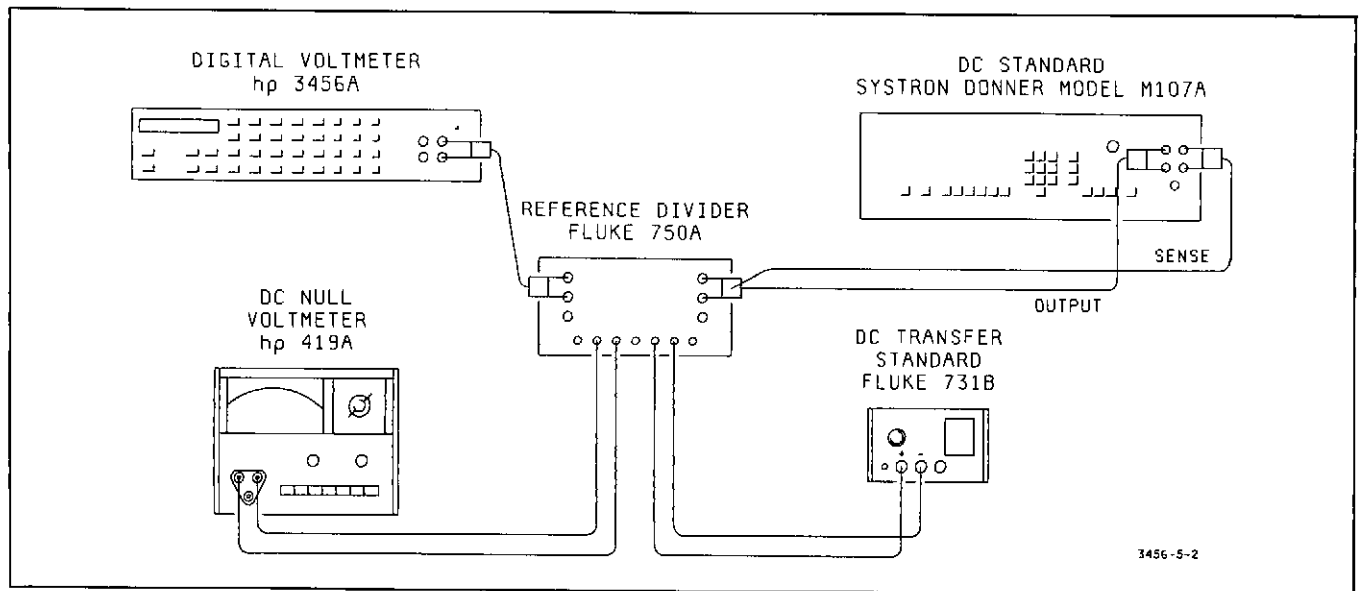

Figure 5-2. DCV Test Equipment Connection.
j. Using short pieces of number 20 AWG (or thinner) insulated solid copper wires, connect the Transfer Standard and the DC Null Voltmeter to the Reference Divider as shown in Figure 5-2 and 5-3.
k. Turn the DC Standard's output off. Using 24 inch or shorter shielded cables equipped with banana-plug connectors, connect the DC Standard and the 3456A to the Reference Divider as shown in Figure 5-2 and 5-3.